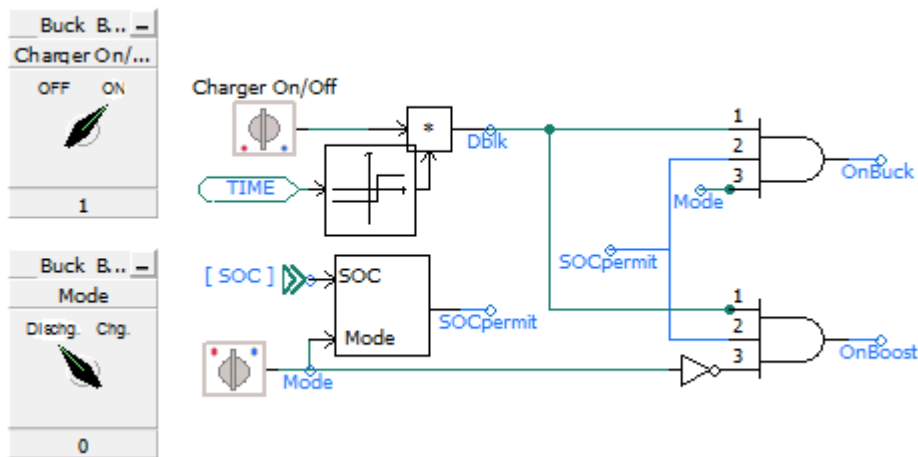
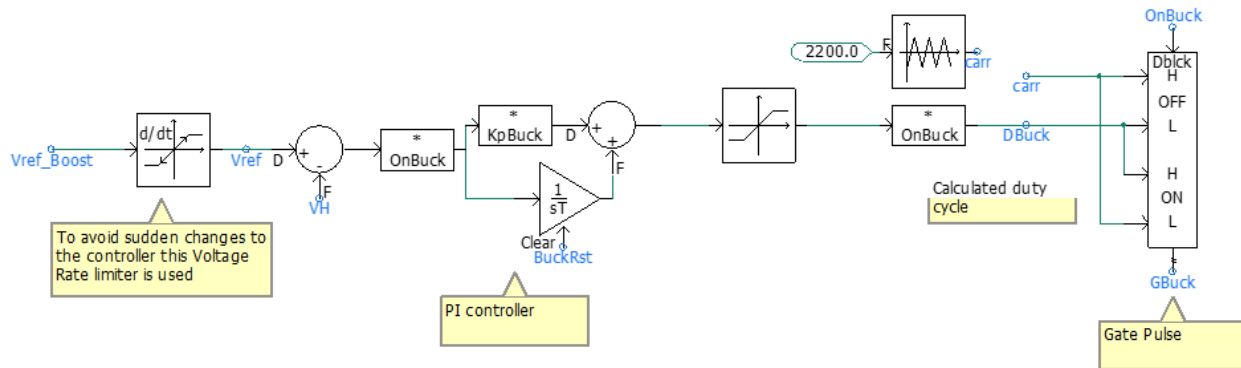
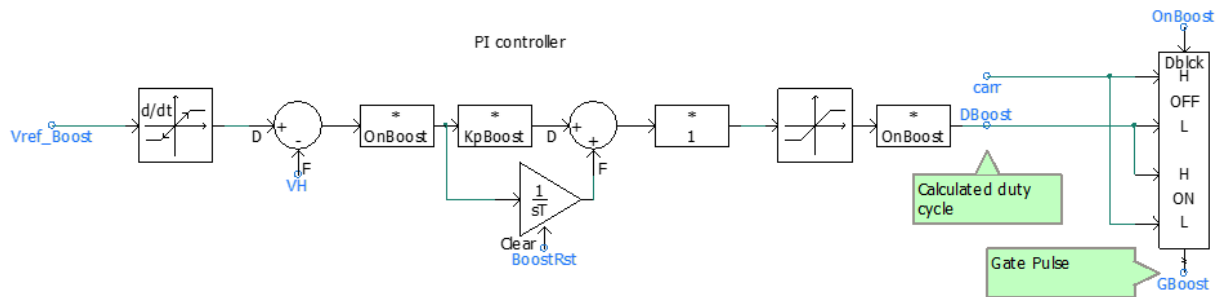

Figure 16: Upper level controllers
Figure 19: The charger controller for Buck converter
Figure 21: The discharger controller for Boost converter
The upper level control system is shown in Figure 16. This control system is manual and also achievable in the “Graphs\_and\_Controls” module.
When the converter operates at charging mode, the Buck converter is enabled (see Figure 16). The Buck controller is shown in Figure 19 where the reference voltage is compared against the low voltage side voltage (VL). The error signal applies to a PI controller with KpBuck and TiBuck coefficients.
When the converter operates at discharging mode, the Boost converter is enabled (see Figure 16). The Boost controller is shown in Figure 21 where the reference voltage is compared against the low voltage side voltage ( $V_L$ ). The error signal applies to a PI controller with  $K_pBoost$  and  $T_iBoost$  coefficients.